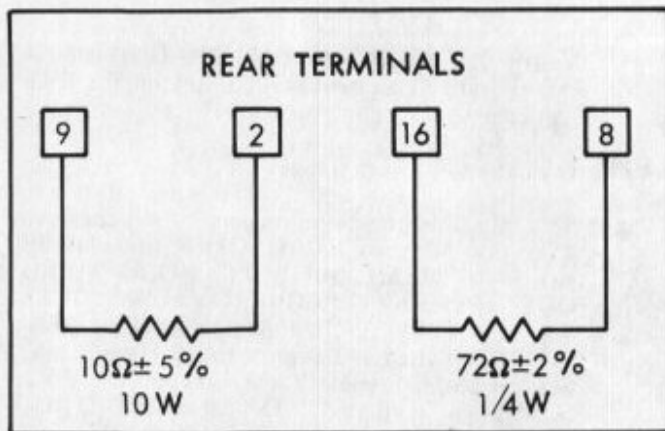

Figure 2-1. Model AFM-2 Modification for Mainframe Tests
- c. Modify the Model AFM-2 as in Figure 2-1 and install the modified Model AFM-2 in the right-hand compartment. Also install an RFM module and a Model FIM-3 in the left-hand and center compartments respectively.